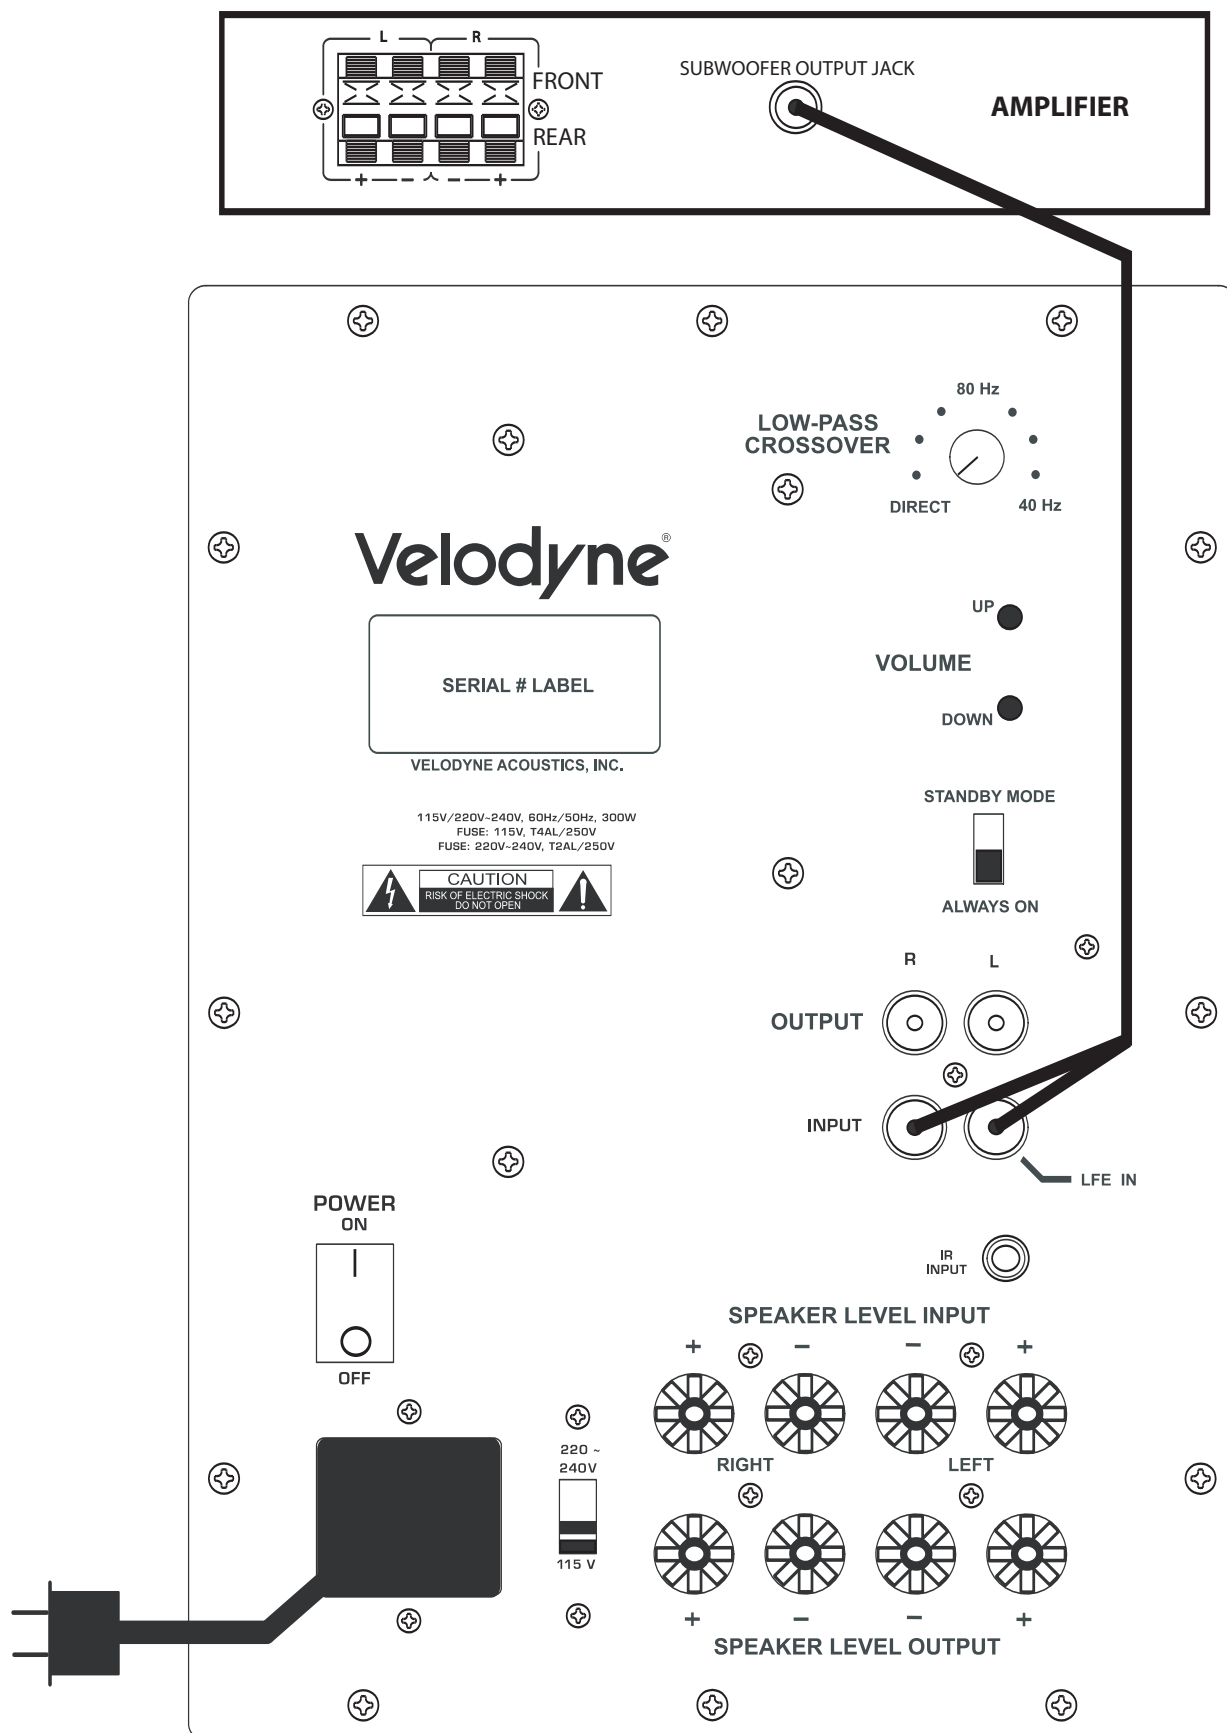
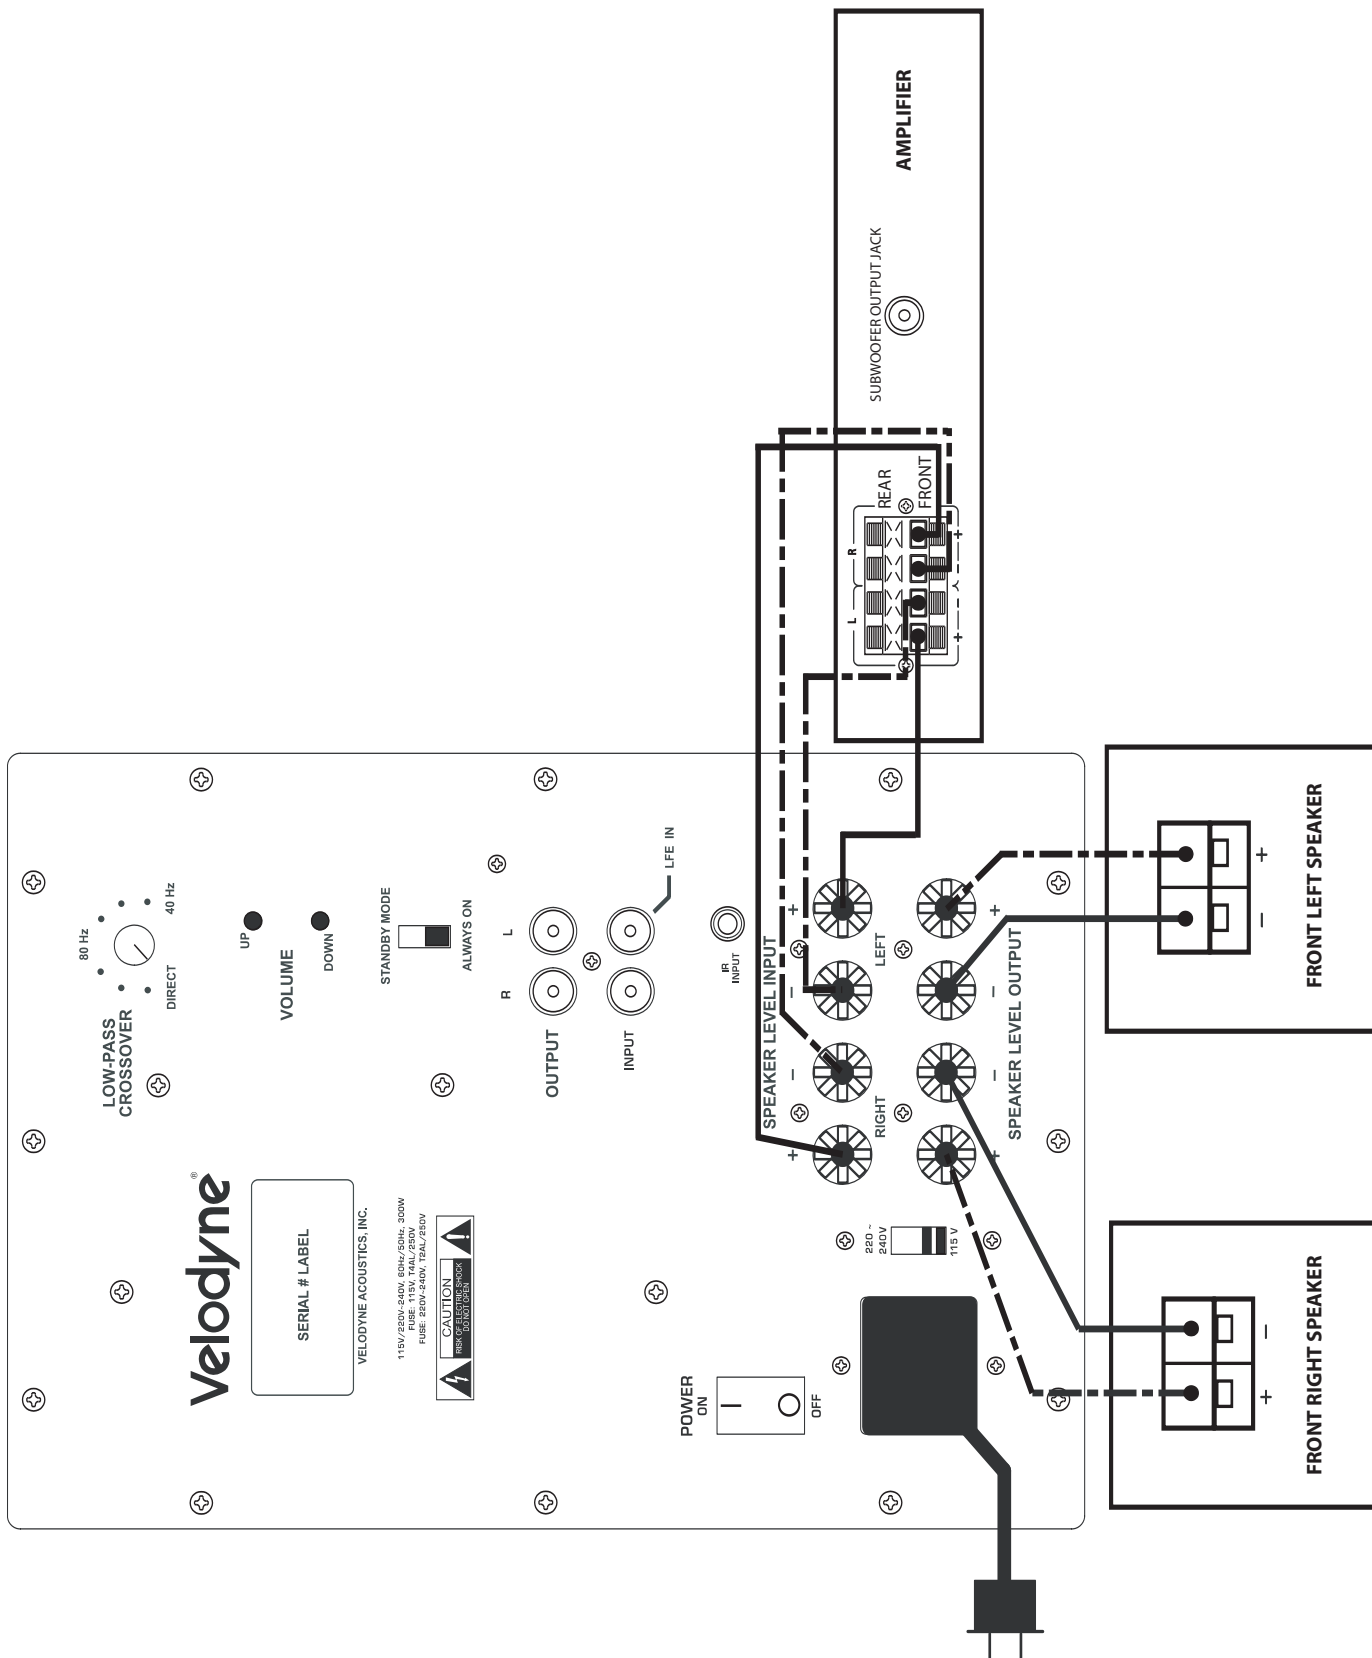

Figure 2a. Line-Level Subwoofer Connection Diagram
Figure 2b. Speaker-Level Subwoofer Connection Diagram
- 1) If using line level jacks, BOTH THE LEFT AND RIGHT INPUT SHOULD ALWAYS BE USED – never use just the left or just the right input. If using line level connections from a preamp or signal processor, use both Left and Right inputs from your preprocessor or preamp and connect them to the Left and Right inputs on your subwoofer. (See figure 2a on page 10.)
- 2) If using a receiver with LFE out, be sure the LFE channel is sending adequate signal to the subwoofer. The subwoofer's default volume setting is 30 on a 1-80 scale (roughly 1/3 volume). Adjust the LFE channel on your receiver or processor to achieve the desired bass output. See your receiver or processor's owner's manual for more information. (See figure 2b on page 11.)
*(Refer to Figure 2a Line-Level Subwoofer Connection Diagram and Figure 2b Speaker-Level Subwoofer Connection Diagram, pages 10 and 11 for connection diagrams.)*